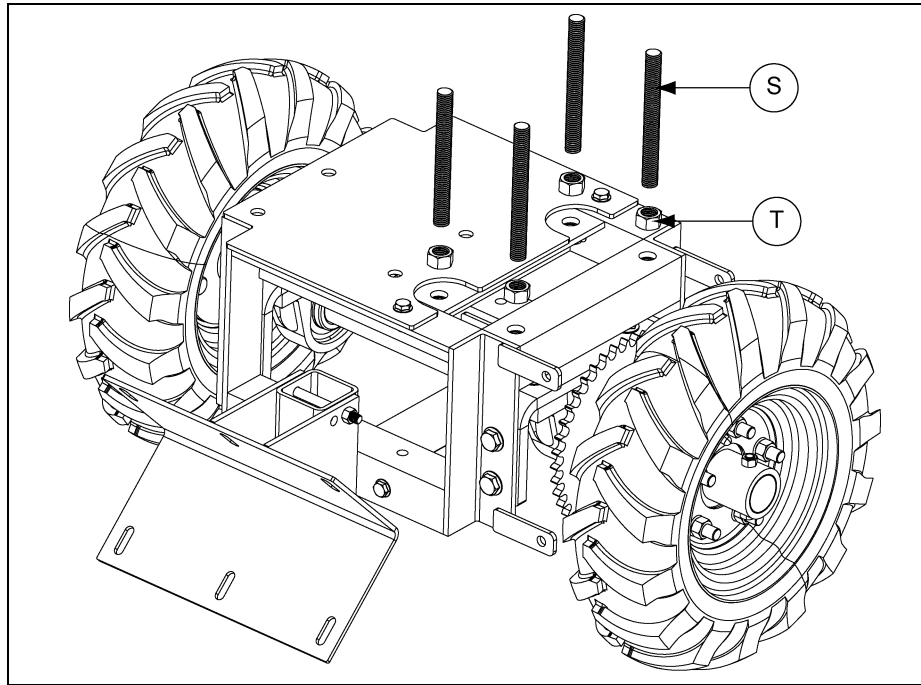

Figure 4E
11. Bolt the four (4) 5/8"-11 x 6" threaded rods (S) to the tractor frame using one 5/8"-11 hex nut (T) for each rod. (See Figure 4E.)